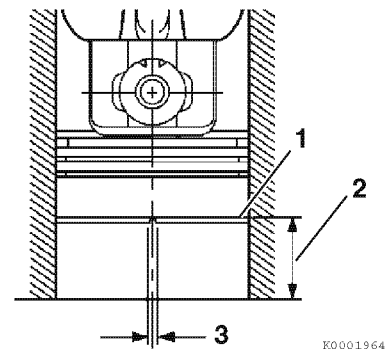

Figure 6-54
10. To measure piston ring end gap, insert each compression piston ring (1, **Figure 6-54**), one at a time, into the cylinder. Use a piston with the piston rings removed to slide the ring into the cylinder bore until it is approximately 1.18 in. (30 mm) (2, **Figure 6-54**) from the bottom of the bore.
11. Remove the piston. Measure the end gap (3, **Figure 6-54**) of each piston ring. Record the measurements. See *Piston ring on page 6-10* for specifications.